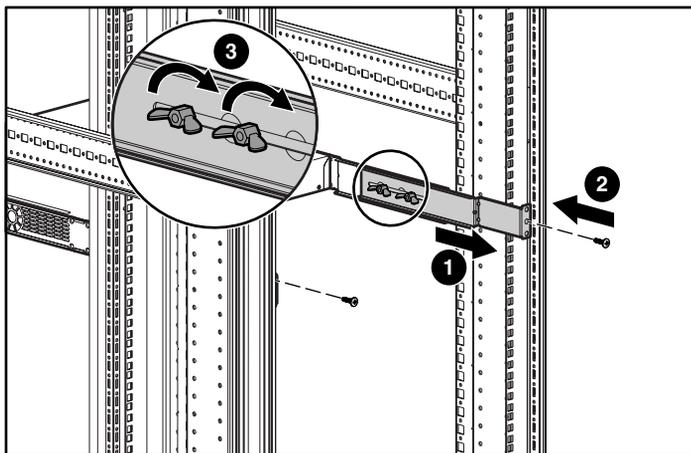

Figure 12: Securing the rear of the rails
- Adjust **1** and secure the rear of the rails using the rack screws **2** (see Figure 12).